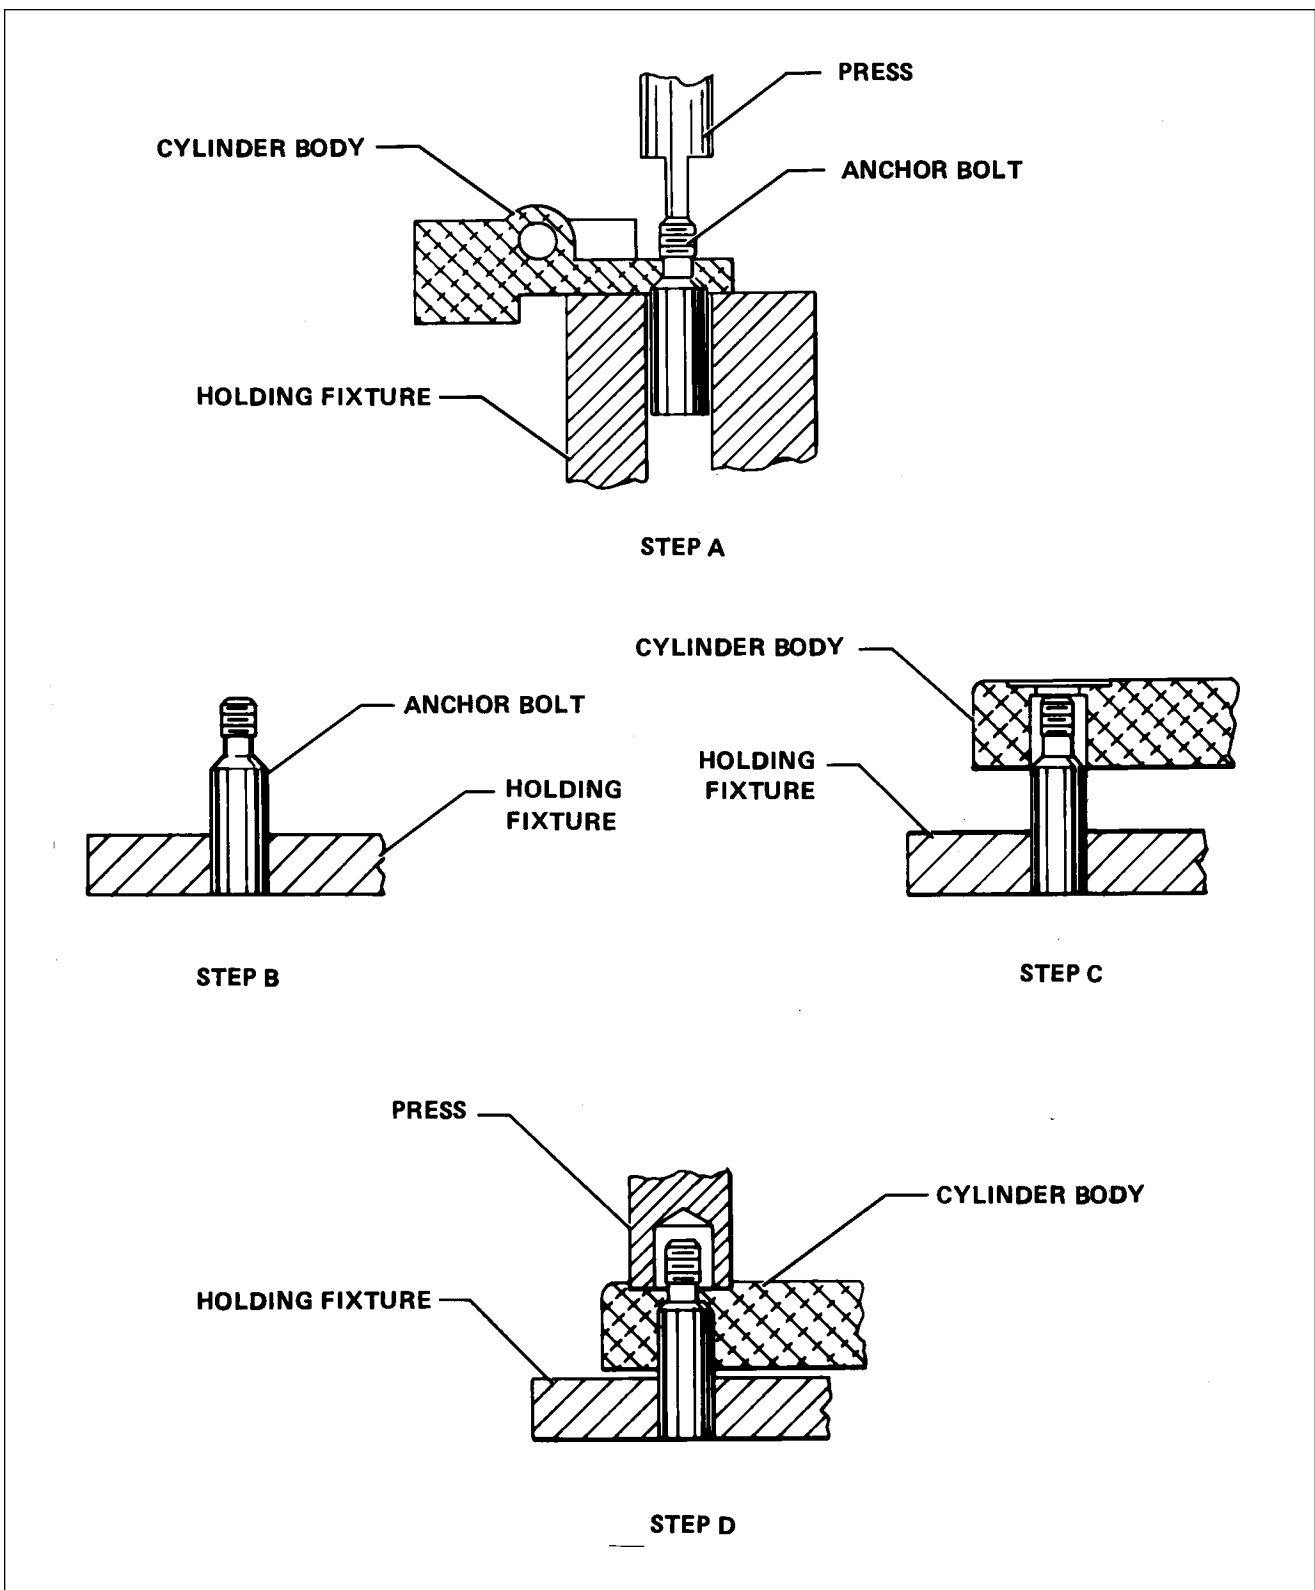

Figure 32-11. Removal and Installation of Anchor Bolts
- A. Position cylinder assembly on a holding fixture. (Refer to Figure 32-11, Step A.)
- A. Support anchor bolt in a holding fixture. (Refer to Figure 32-11, Step B.)
- B. Align cylinder body over anchor bolt. (Refer to Figure 32-11, Step C.)
- C. Use a suitable arbor press and apply pressure on the spot face directly over the anchor bolt hole. (Refer to Figure 32-11 Step D.)